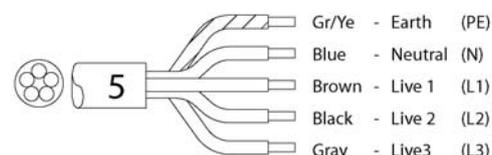

Fig 14
- (fig. 14) 3 N~ 400V (5-core cable).